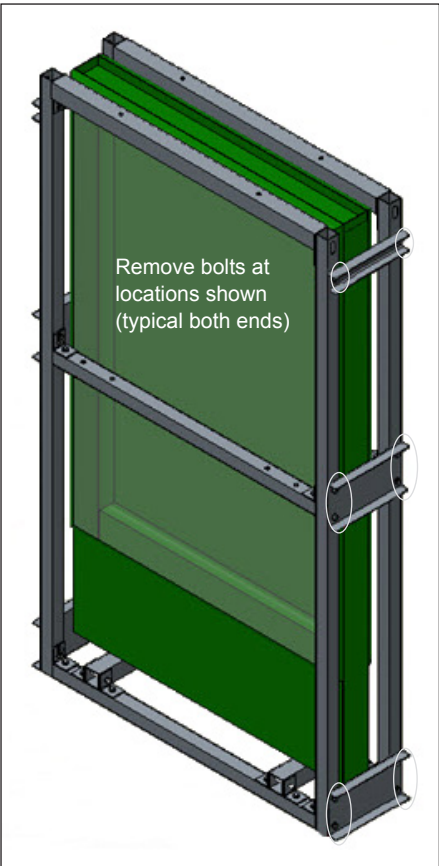

Figure 6: Removing Side Panel
- 4. Remove the bolts carefully, ensuring the side panels do not touch the display section. Refer to Figure 6.